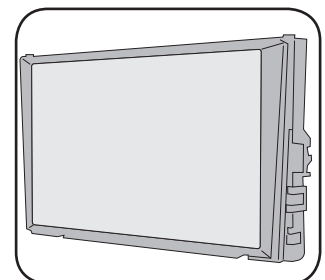

Fig. 1.17
1. Place the Pioneer screen into the VW1 bezel. (Fig. 1.17)